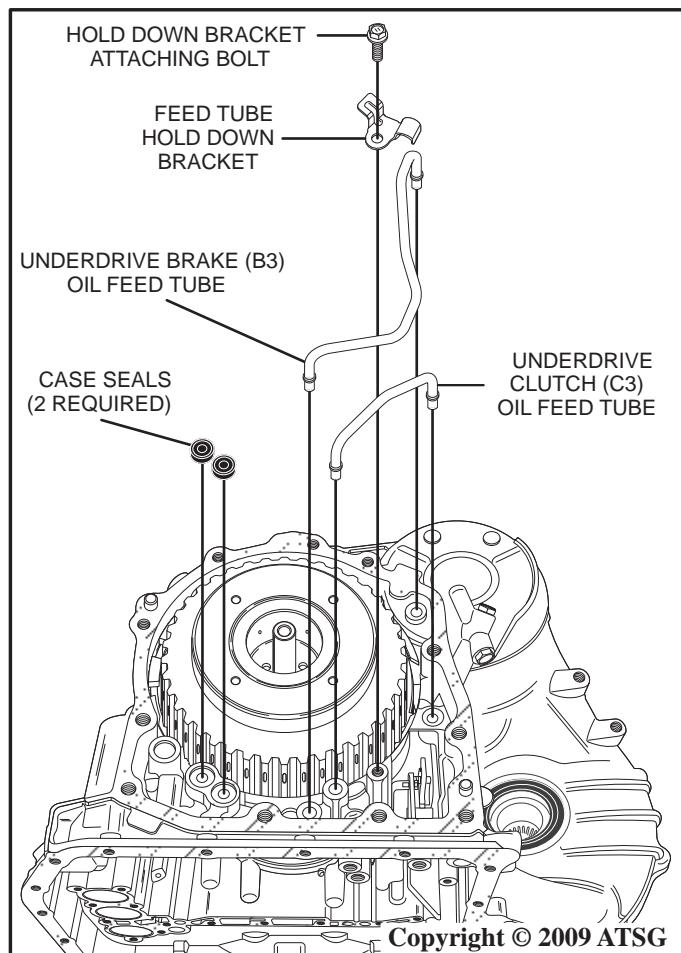

Figure 44
66. Remove the direct clutch (C2) thrust bearing as shown in Figure 43 on Page 27. Remove the 2 case seals as shown in Figure 44.
67. Remove the 10mm hold down bracket attaching bolt as shown in Figure 44.
68. Remove the feed tube hold down bracket as shown in Figure 44.
69. Using a screwdriver, gently loosen and remove the longer underdrive brake (B3) oil feed tube by lifting straight up as shown in Figure 44.
70. Using a screwdriver, gently loosen and remove the shorter underdrive clutch (C3) oil feed tube by lifting straight up as shown in Figure 44.